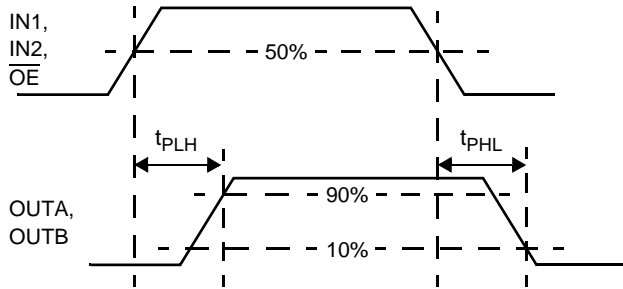

Figure 4. t_{PLH} , t_{PHL} , and t_{PZH} Timing
15. Load of Output is $8.0\ \Omega$ resistance. see figure 4